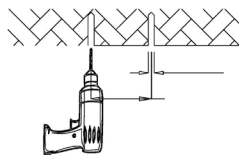

Figure 1-1
1. Make marks on the walls, and then drill holes on the marks (Figure 1-1).